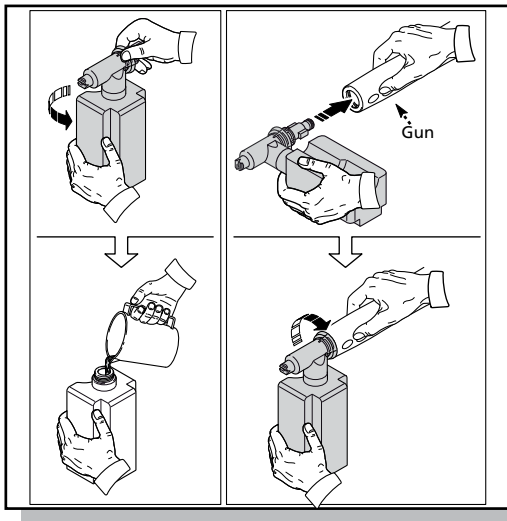
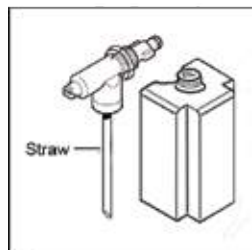

Fig. 10
Fig. 11
- When using the detergent bottle, * fill it with a properly formulated detergent or cleaner with water ratio according to instructions on the container (Fig. 10). The detergent bottle comes with a straw which is fitted into the screw-on top. If you don't see the straw, look inside the bottle and attach it to the screw-on top (Fig. 11).